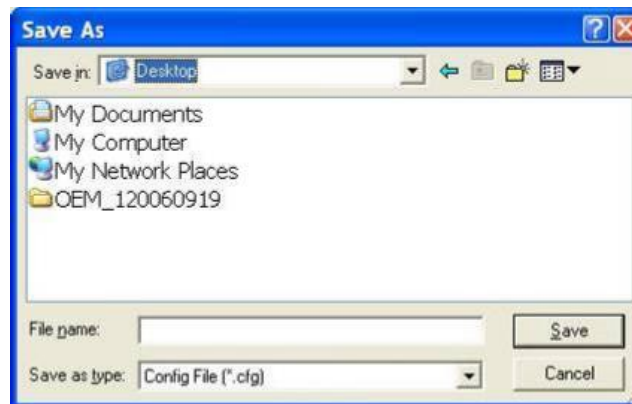

Figure 7-45
**Save configuration data:** Click export config button to save current setup as a file. Extension name is CFG. See Figure 7-45.